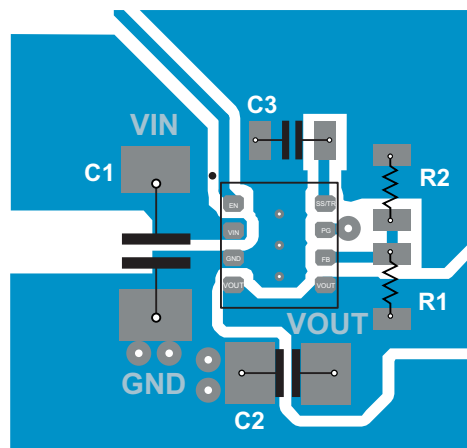

Figure 29. TPS82130 PCB Layout
- Refer to Figure 29 for an example of component placement, routing and thermal design.